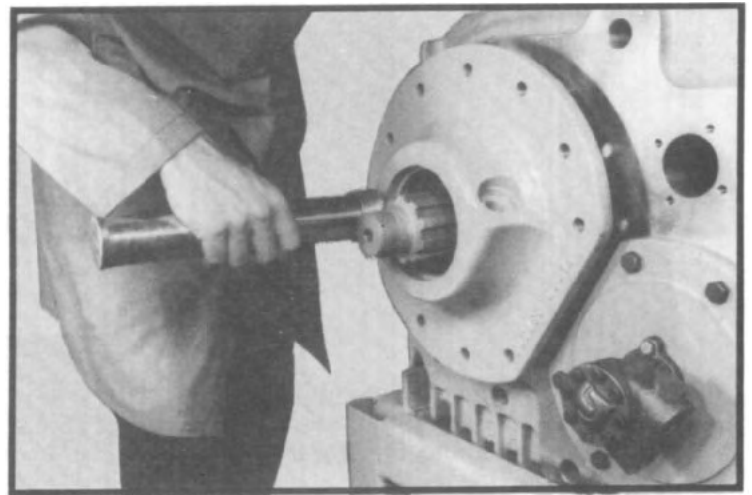

Fig. 108
- 1.14. Install rear output carrier and gasket to housing. Move the lower shaft up or down until the bearing seats into the carrier. Tap the carrier with a soft bar until the carrier is against the housing. (See fig. 108)